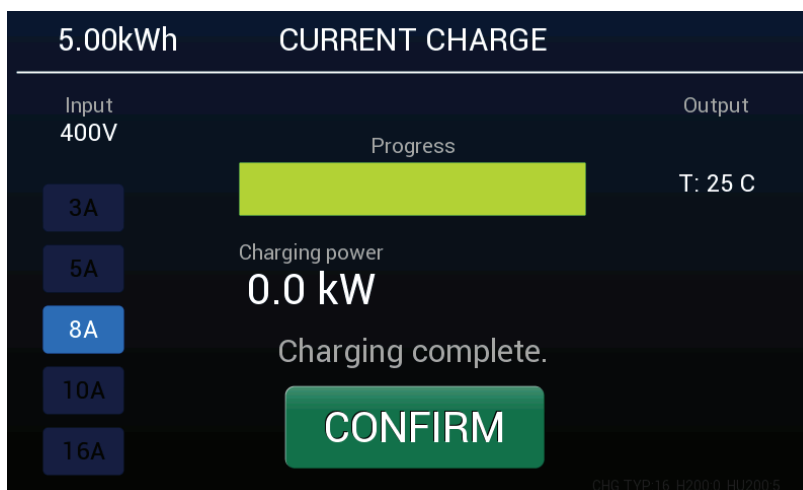

Figure 011
9. When charging process is completed press “CONFIRM” on the display, see Figure 011.